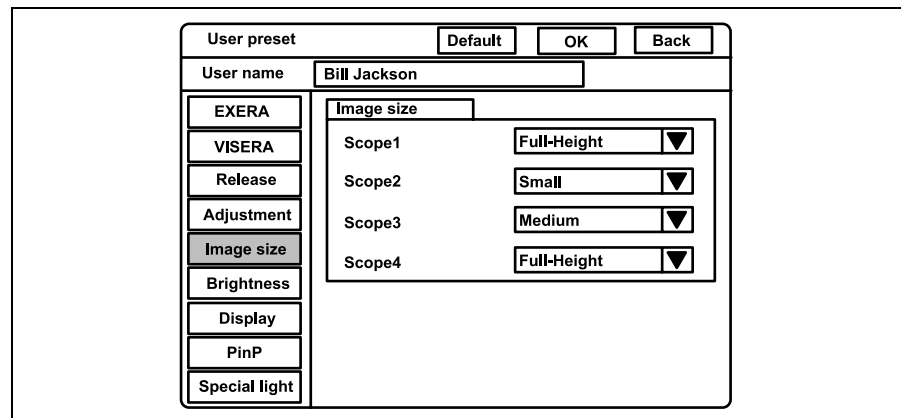

Figure 9.23
1. Click “Image size” on the system setup menu. The setting items appear on the right side of the window (see Figure 9.23).
2. Click “▼” of the scope type to use (see Figure 9.23). The image sizes appear in the pull-down menu.